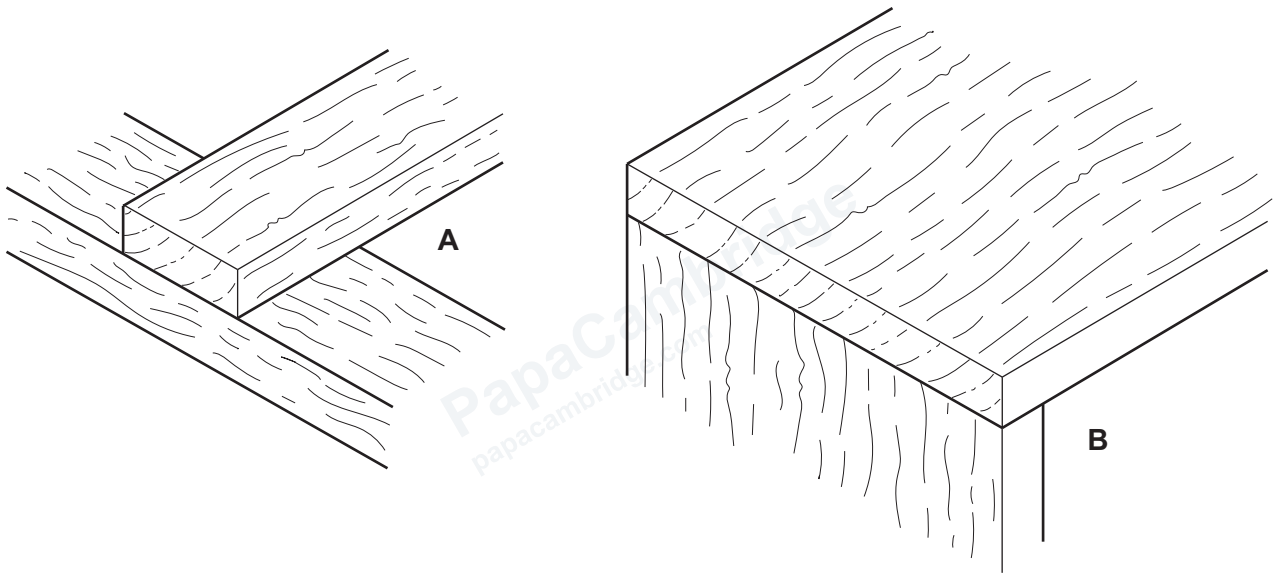

Figure 7.1
- 7 Figure 7.1 shows two joints, **A** and **B**, that are made from hardwood parts. The parts will be joined together with nails.